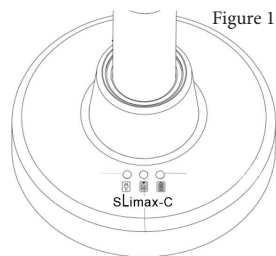

Figure 1
3. Place curing unit with battery into the charger as shown in Figure 1 or 2.